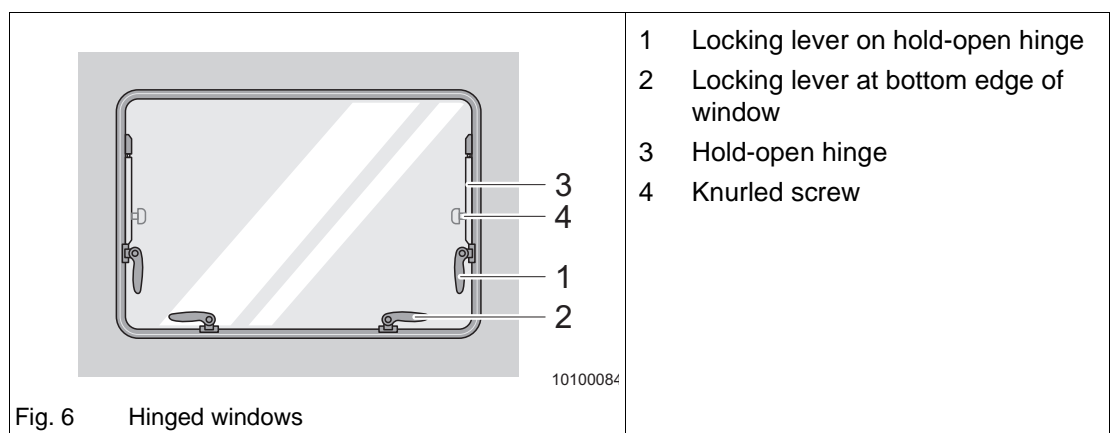

Fig. 6 Hinged windows
- ➔ Open the two locking levers (Fig. 6/1) on the hold-open hinges (Fig. 6/3) first.
- ➔ Then open the locking levers (Fig. 6/2) on the bottom edge of the window.
- ➔ Window with knurled screw: Tighten the knurled screw(s) (Fig. 6/4) clockwise when the hold-open hinge has reached the desired opening position.
- ➔ Window with knurled screw: Hold the window pane with one hand and loosen the knurled screw(s) (Fig. 6/4) anticlockwise until the window can be slightly moved.
- ▲ For permanent ventilation, close only the levers (Fig. 6/2) at the bottom edge of the window in the "permanent ventilation" position, otherwise the window pane is bent. This could result in the formation of cracks in the acrylic glass window.